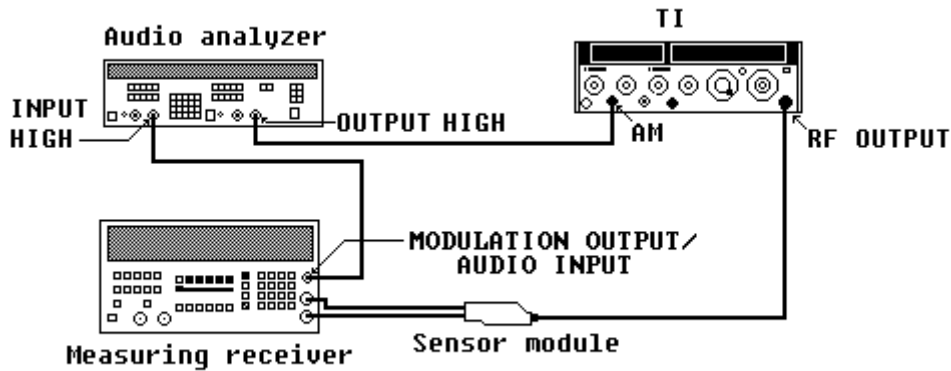

Figure 7. AM flatness - test setup.
- (1) Press **Instrument Preset** on measuring receiver, then set to measure **AM**.
- (2) Position TI controls as listed in (a) through (e) below.
- (3) Connect equipment as shown in figure 7.
- (4) Adjust audio analyzer amplitude and frequency controls for 1.0 V rms at 90 Hz level.
- (5) Set **AM** switch to **DC** and adjust **AM** control for TI meter indication of 50% AM.
- (6) Set audio analyzer to measure AC level in dB mode, then press the audio analyzer **RATIO** key.
- (7) Set the audio analyzer output for a 150 Hz output then set to measure level.